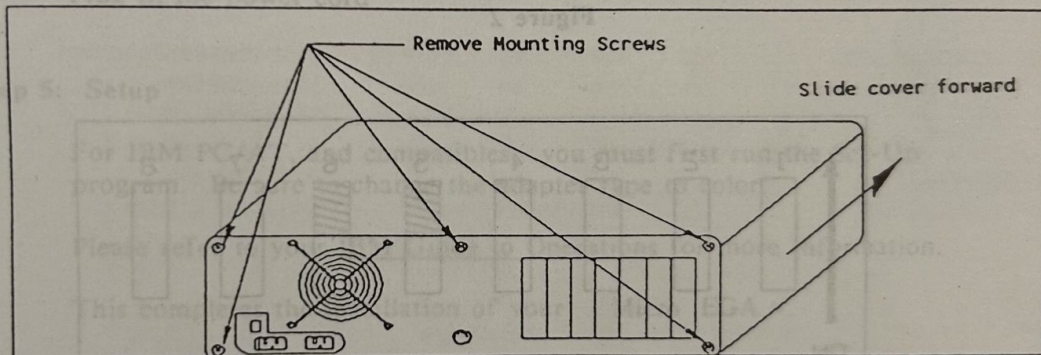

Figure 1
- Carefully slide the cover forward until it comes off. (See Figure 1)